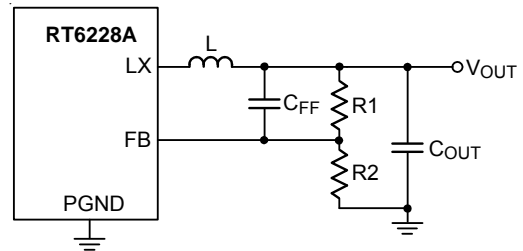
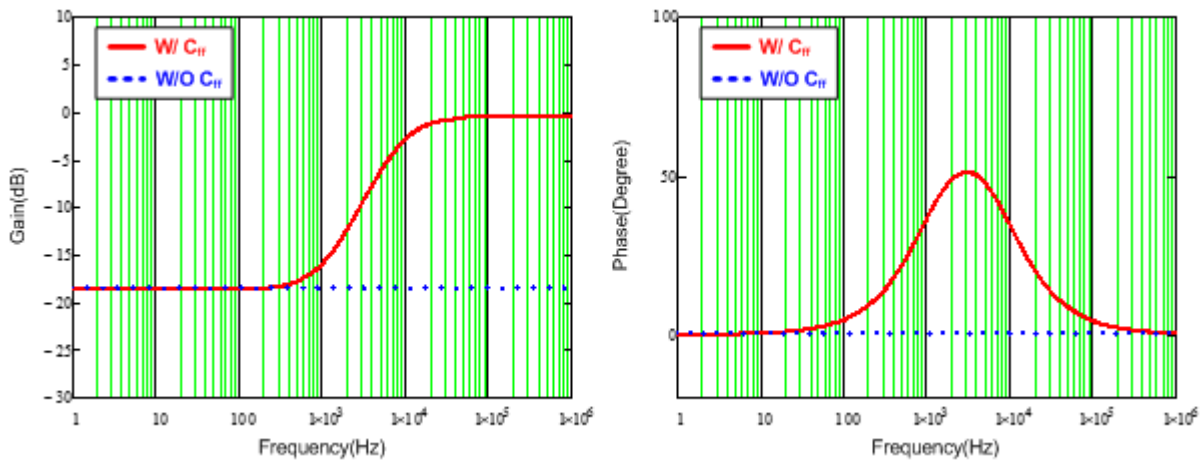

Figure 5. Feedback Loop with feedforward Capacitor.
Figure 6. Bode Plot with Different Feedback Loop Conditions
For saving time to design compensator and reducing the layout area through external components, the components of compensator are integrated in IC. However, this integrated compensator might not suit to every load transient spec. Hence, for the RT6228A to be more adaptable, the feedforward capacitor CFF is used in the feedback loop to improve transient response, as shown in Figure 5. Figure 6 shows the comparison result of bode plot with different feedback loop conditions. Referring to Figure 6, through connecting a CFF in feedback network, the gain and phase are raised in mid-frequency that not only can extend the bandwidth, but boost the phase margin as well. Moreover, there is also a high frequency pole to eliminate high frequency noise. Consequently, those features of feedforward feedback network allow the RT6228A have faster response to handle different load transient.
Observing Figure 6, the maximum phase boost occurs between zero and pole frequencies that is defined as maximum phase boost frequency, as expressed in equation (4). Hence, in order to achieve the maximum phase boost by adding  $C_{FF}$  in the RT6228A, the system's original bandwidth has to be located at maximum phase boost frequency.